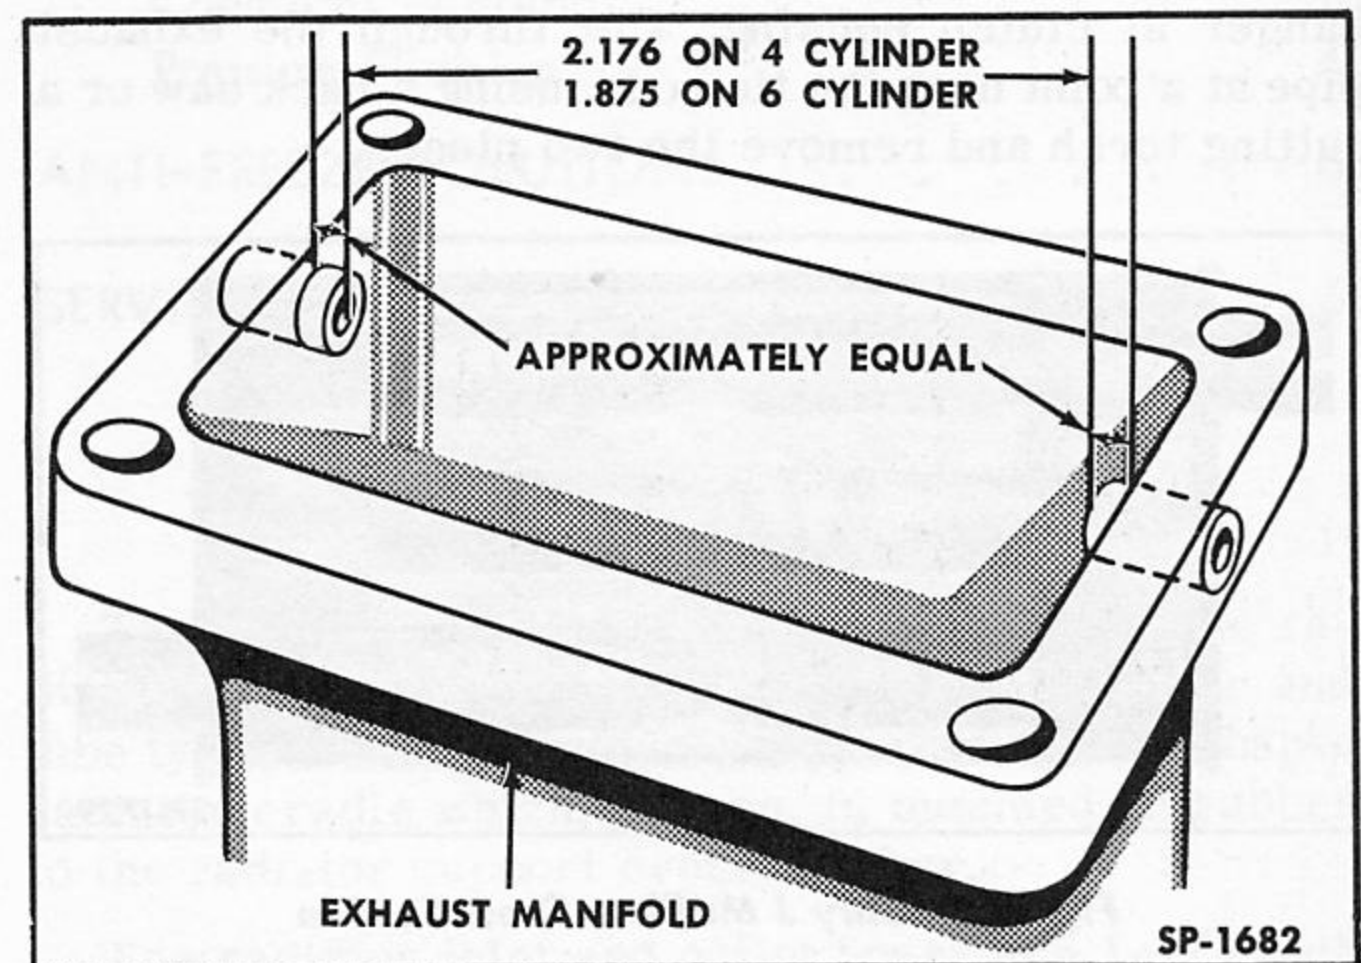

Fig. 85—Heat Control Valve Shaft Bushing Installation
1. Press new shaft bushings into manifold until the space between the inner ends of the bushings is 2.176 inches on six cylinder engines and 1.875 inches on four cylinder engines (see Fig. 85). The bushings should extend approximately equal distances inside the inner surfaces of the exhaust manifold.